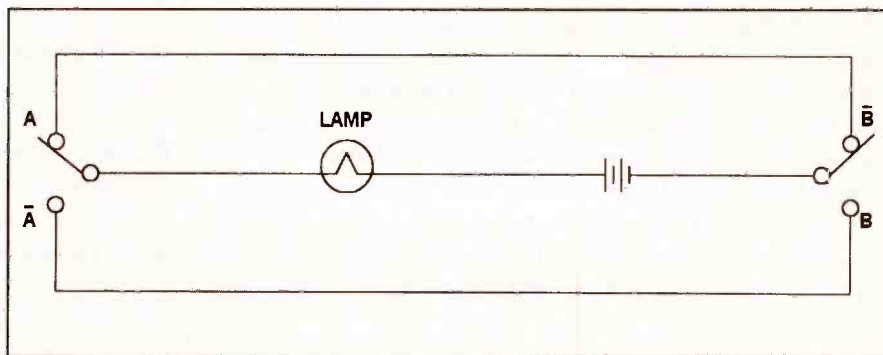

Figure 1. Write the Boolean expression for this circuit.
- Write the Boolean expression using A, B, \bar{A} and \bar{B} for the circuit shown in Figure 1.